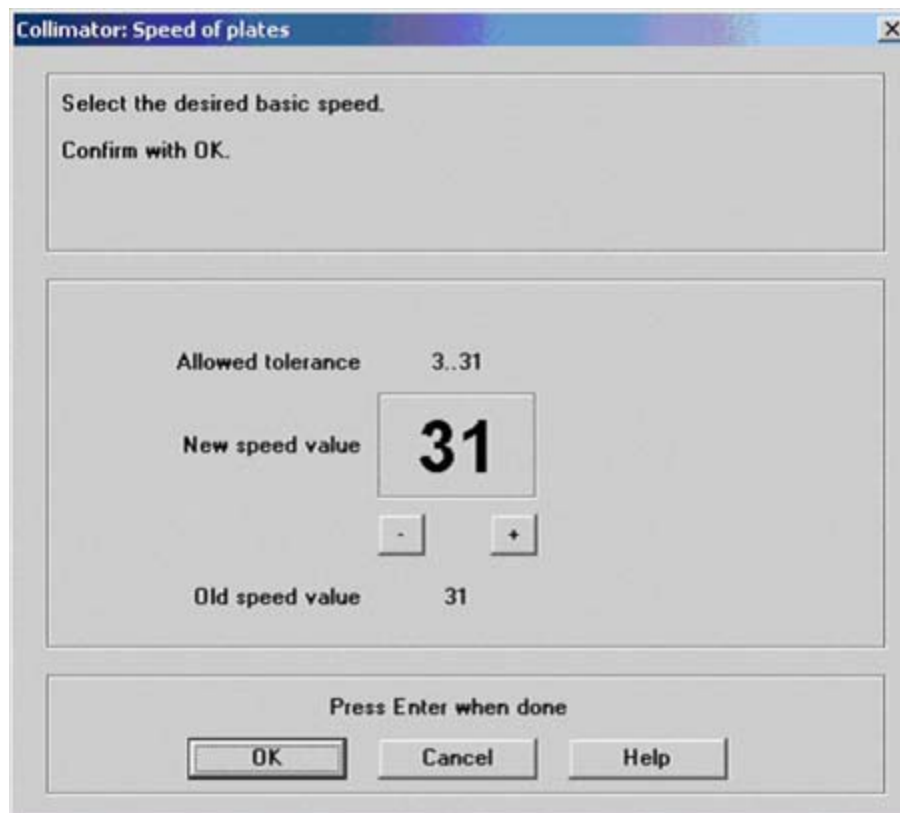

Fig. 22:
- Select **Execute** and note the displayed data (Fig. 22 / p. 43).